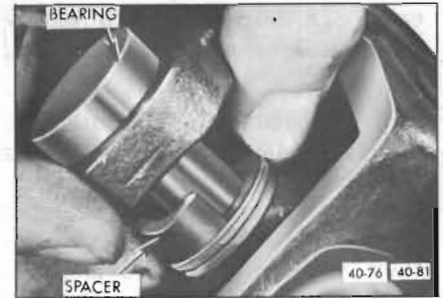

Figure 40-76—Installing Spacer
4. Release the pump and remove the propeller shaft. Install Spacer J-9522-5 over the spider journal at the space provided with the bearing forced partially through the link yoke. See Figure 40-76. Reposition propeller shaft in fixture as before and force the bearing completely out of the yoke with the added assistance of the Spacer.